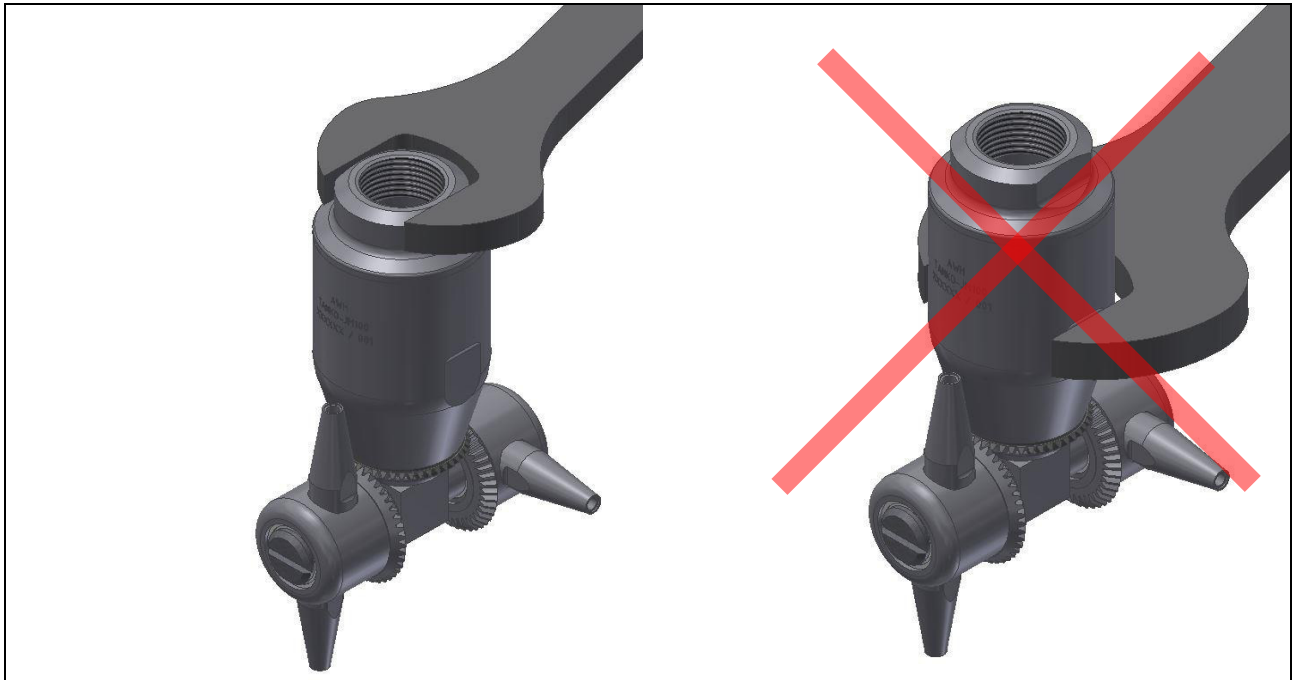

Figure 5.2-7: Assembly of threaded connection (example JM100)
- Only use the wrench flat on the connection cover for screwing on and unscrewing the device on the pipe for the media supply (see Figure 5.2-7: Assembly of threaded connection \(example JM100\)).
3. Tighten the threaded connection between the connection cover and the pipe using an open-ended wrench or adjustable pliers wrench, as shown in Figure 5.2-7.